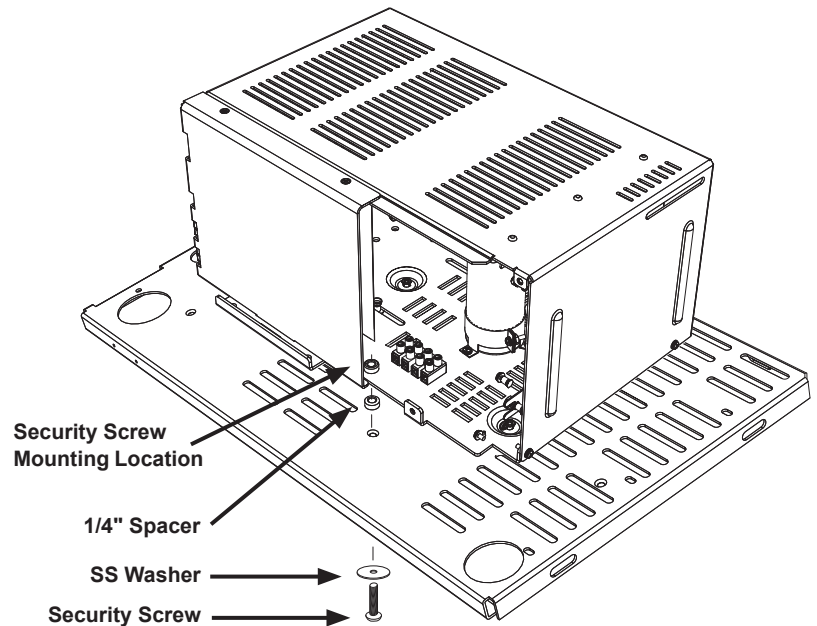

Fig. 2-3, Power Supply/Enclosure Shelf Security Screw Stack Up
5. Position the XM3-HP power supply with the security hole over the drilled hole and spacer (use the center punch to hold the spacer in place while situating the power supply) (see Fig. 2-3).